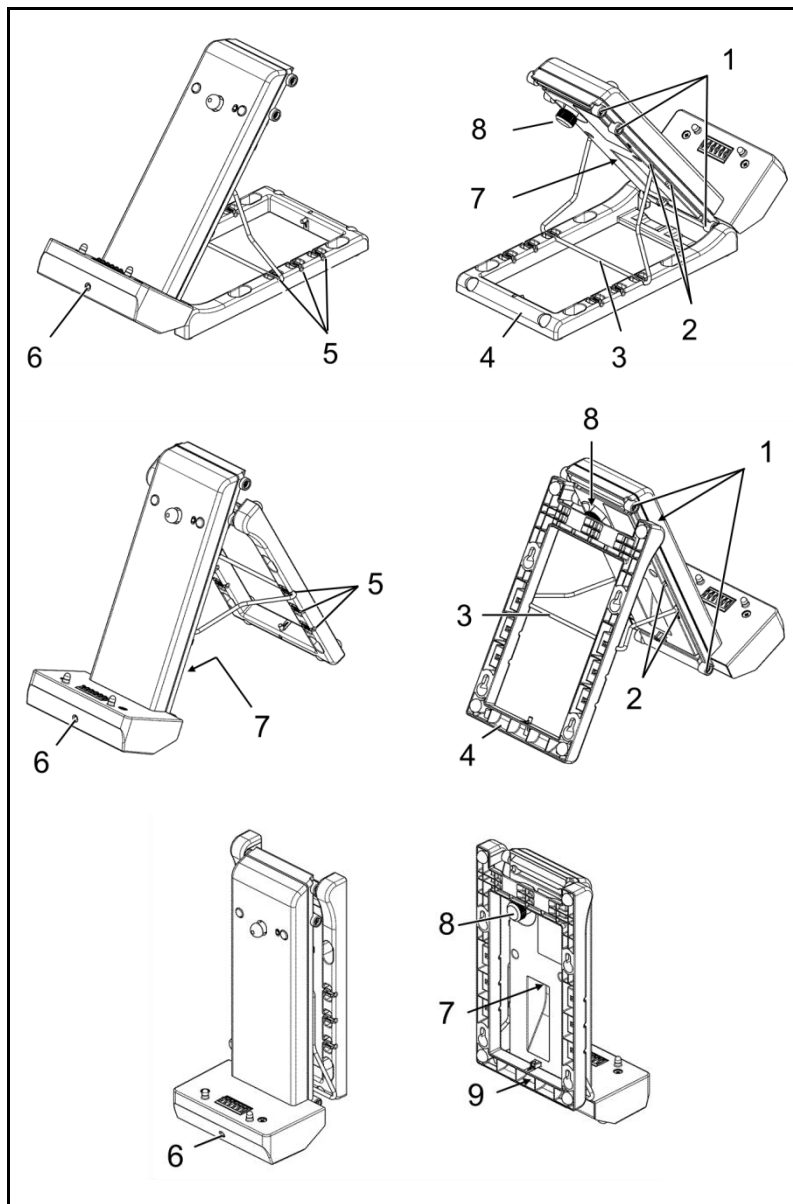
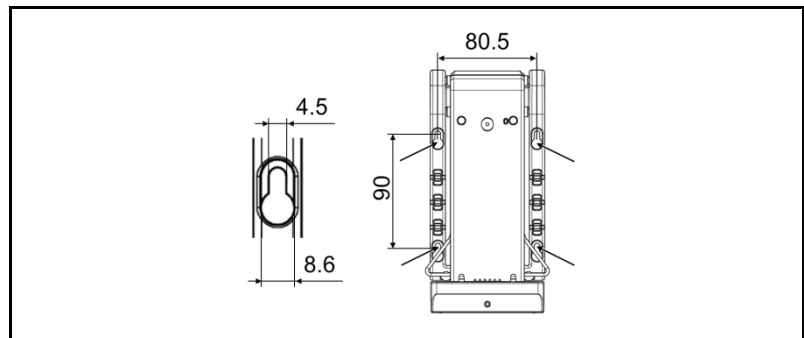
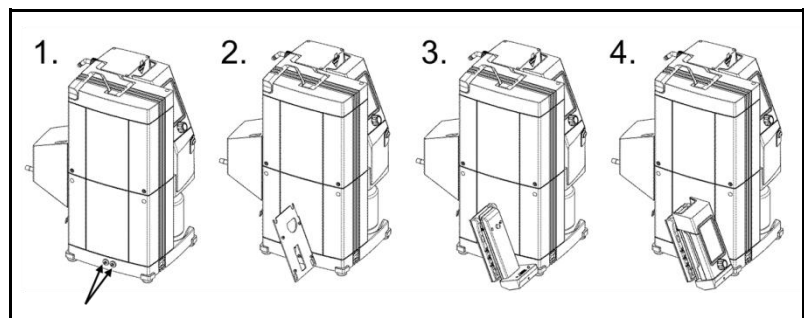

Fig. 6: Charging station for hand terminal
Fig. 7: Charging station fixed to a wall
Fig. 8: Attaching the charging station to the SCC 950 vacuum pump system
| Set up the charging station | <p>Set up the charging station for hand terminal 2 (see Fig. 6, page 20).</p> <p>Basically, there are four different setup or installation options:</p> <ol style="list-style-type: none"> 1.) Bench version 1 (see Fig. 6, top) 2.) Bench version 2 (see Fig. 6, center) 3.) Wall installation (see Fig. 6, bottom) 4.) Attachment to the vacuum pump system (see Fig. 6, bottom) |
The green LED (Fig. 6/6) indicates that the hand terminal is charging (LED lit) when it is placed on the charging station and the station is connected to the power supply via the power supply unit.
1.) Bench version 1 (Fig. 6, top)
The angle of the charging station can be adjusted by the positions of the foot and the wire support (mounting options, see Fig. 6).
2.) Bench version 2 (Fig. 6, center)
3.) Wall installation (Fig. 6, bottom)
- Fixing screw (Fig. 6/9) tightened
- Hand terminal on charging station and fixed in place with the transport holder (Fig. 6/8) (optional)
1. Hang the charging station on the wall (hanging points, see arrows in Fig. 7).
4.) Attachment to the vacuum pump system (Fig. 6, bottom)
1. Loosen the two Allen screws (Fig. 8/1.) so that the bracket can be mounted.
2. Mount the enclosed bracket (Fig. 8/2.).
4. Hang the charging station on the four screws in the bracket (Fig. 8/3., hanging points, see arrows in Fig. 7).
6. Place the hand terminal on the charging station (Fig. 8/4.) and fix in place with the transport holder (Fig. 6/8) (optional)